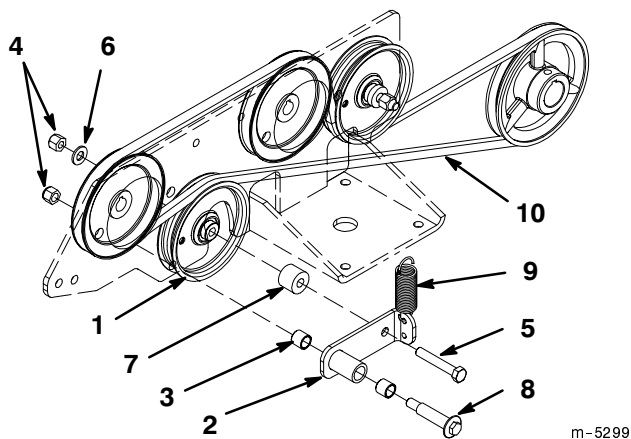

Figure 78
2. Remove tension on idler arms and remove belt from the idler. See one of the following figures 78, 79 or 80 that shows the idler you are checking.
5. Insert a pin punch into the idler arm and carefully drive out the bushings (Figures 78, 79 or 80). Clean the inside of the idler arm.
6. Use a hammer and flat plate to carefully drive new bushings into the idler arm (Figures 78, 79 or 80).